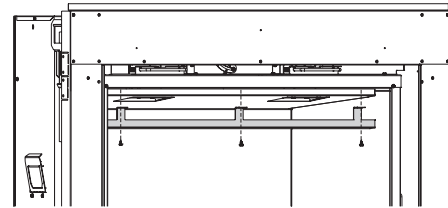

Figure 80
3. Remove the top liner bracket and top liner (**Figures 80 and 81**).